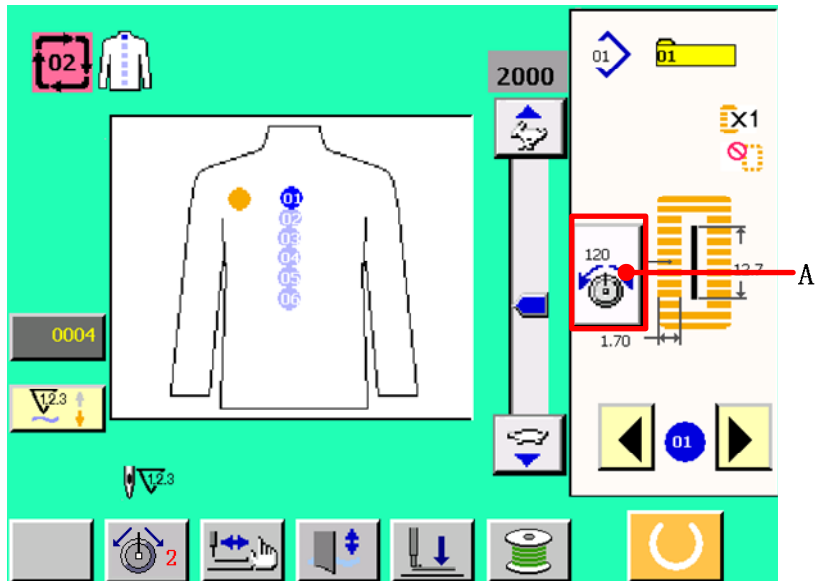

figure 13.1
- 1 Press button **A** in data input screen、 independent sewing screen and cycle sewing screen. The changing of needle thread tension screen is displayed(see figure 13.1).
The parameter **S51** of needle thread tension mode 1 or mode 2 will be displayed in data input screen and sewing screen.(see figure 13.1)